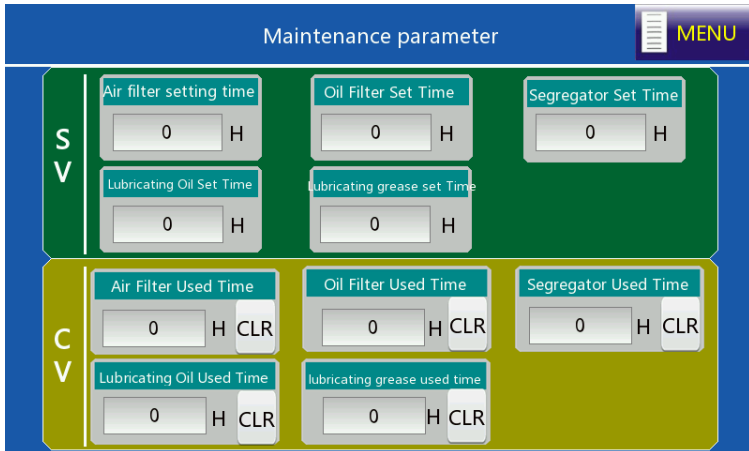

Figure 4-11 Maintenance parameter interface
7. Choose **Maintenance parameter** in the menu. The interface shown in Figure 4-11 is displayed.